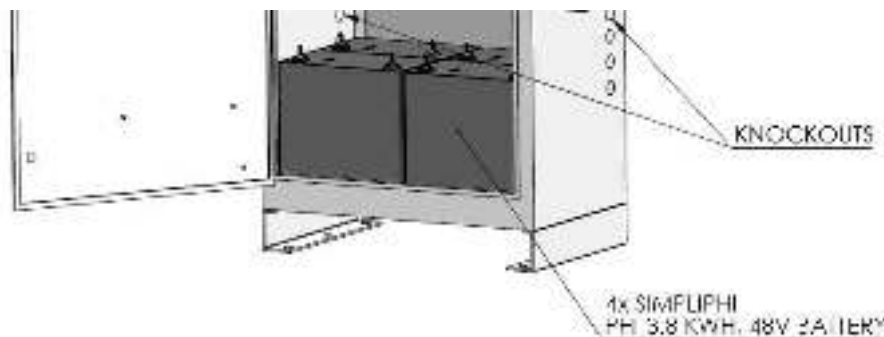

Figure 8.0 – 4 Battery Orientation in the AccESS Sol-Ark-8K-15.2 kWh
6. Connect the cables that are pre-wired into the Sol-Ark to the interconnecting busbars secured to the batteries. All connections are in parallel: each positive cable connects to each positive busbar, and each negative cable connects to each negative busbar (refer to Figure 8.0 above).